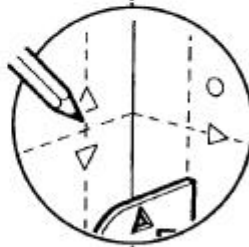

Fig. 35
11. Remove the template and draw a vertical line between the two marks. The intersection of the vertical and horizontal lines is the centre of the flue hole (Fig. 35).